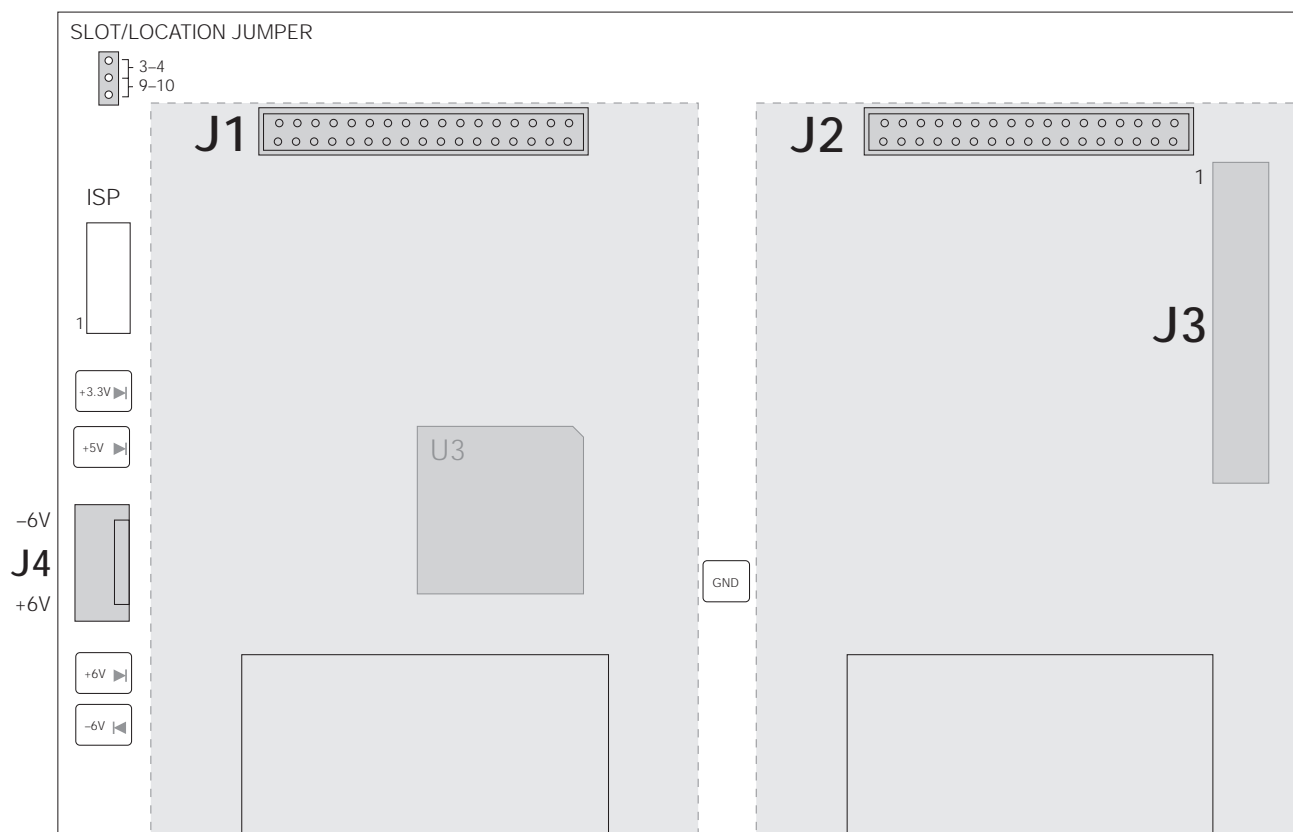

Figure 1. Two-Card Expansion Board
10. Set the slot/location jumper to the 3-4 position (see Figure 1 on page 1).
11. Set the slot/location jumper to the 3-4 position (see Figure 1 on page 1).